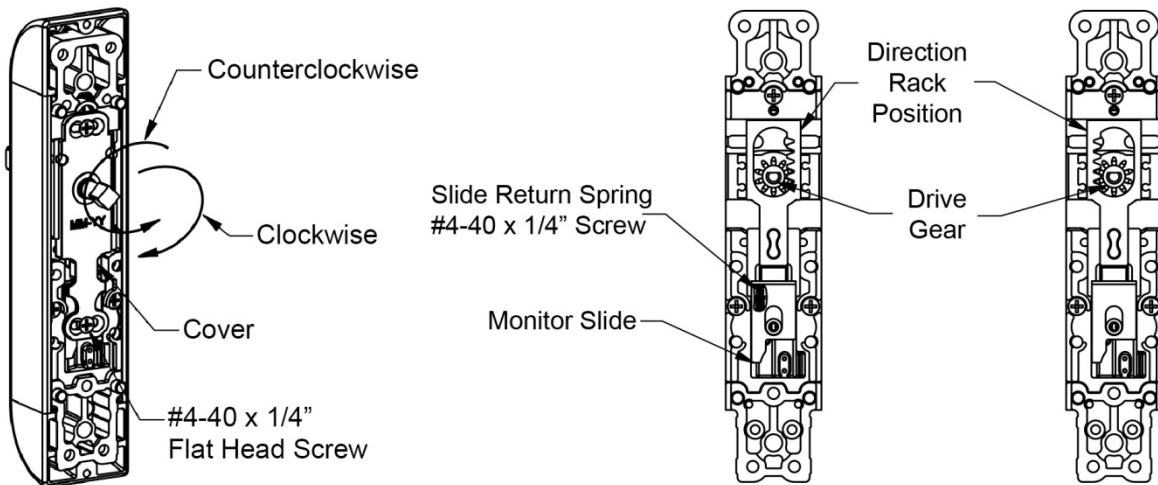

Figure 8. Handing Configuration
1. DETERMINE the current handing configuration(see Figure 8, "Handing Configuration").
- a. REMOVE both #4-40 x 1/4" screws and REMOVE the cover (see Figure 8).
- b. REMOVE and FLIP the direction rack, ensuring the drive gear stays in position (see Figure 8).